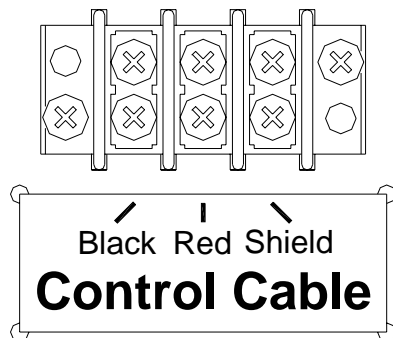

Figure 10 Control Cable Wiring Diagram
3. Connect the control cable to the **Control Cable** terminal block on the junction chassis according to figure 10.